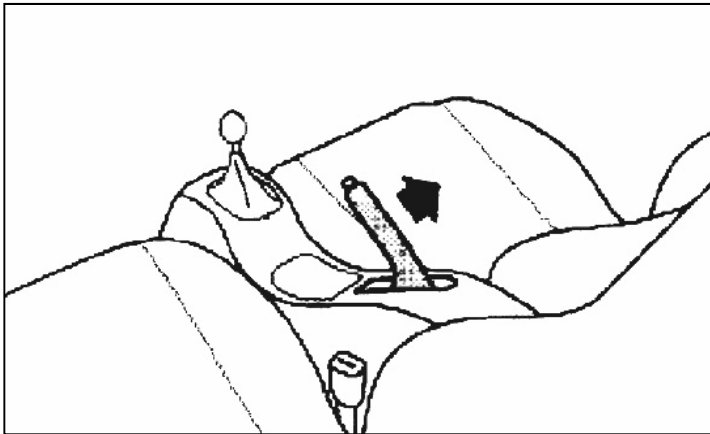

Figure 1
1. Firmly apply parking brake. See Figure 1.